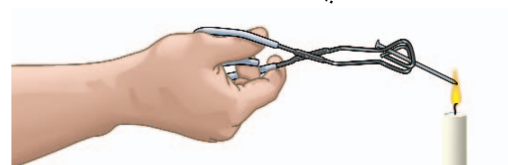

Fig. 5
1. Measure and mark a line 1 1/4 in. from the edge of one model. Draw an X at the center of the line as shown in Fig. 5. Repeat for the other model.